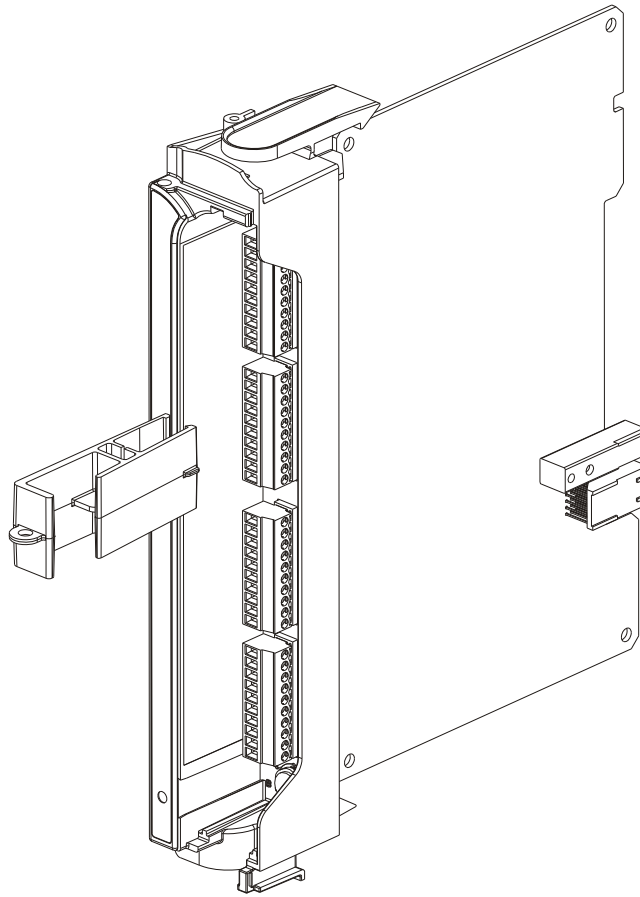

Figure 5-4 TB Extractor
- 2) Position the TB extractor over the desired TB connector, with the small notch facing to the right. (See Figure 5-4.)